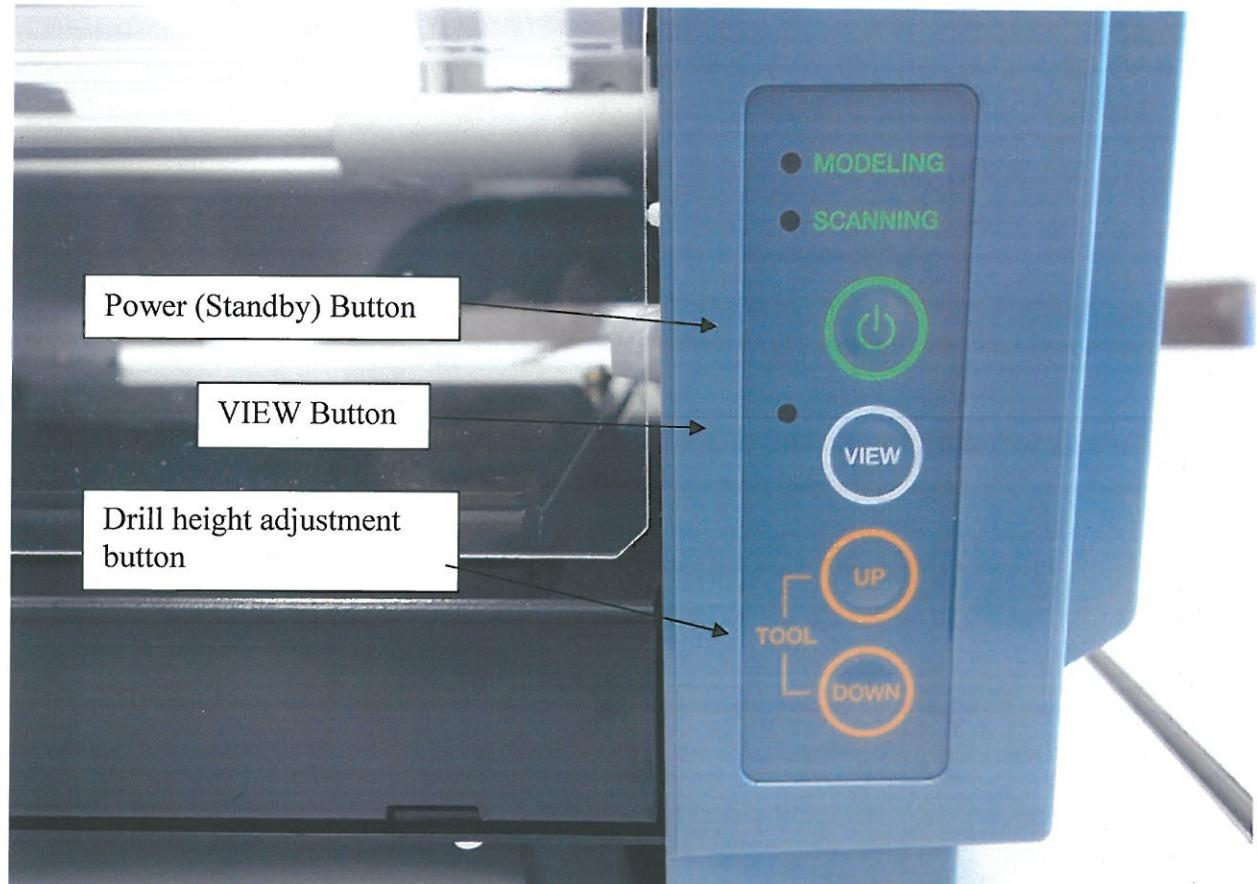

Figure 5: Machine Controls
5. Turn the machine on by pressing the **POWER (STANDBY)** button (Figure 5).